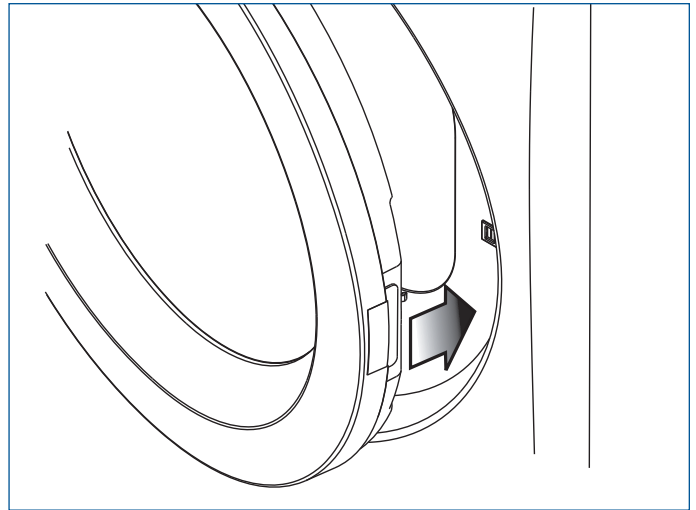

Figure 2-32.
3. Close the door and test operation of hinge, strike and latch. (See Figure 2-32)